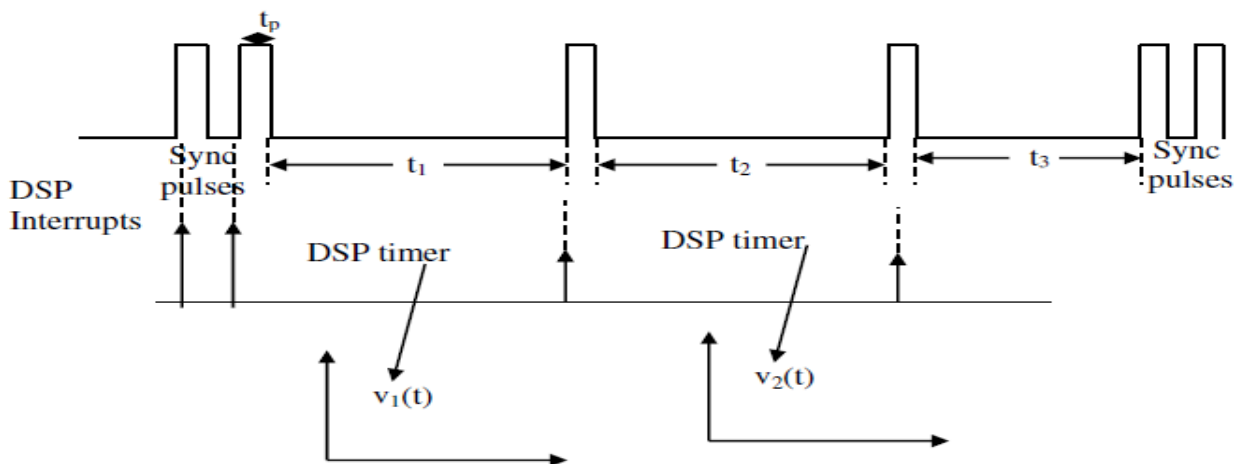

Fig. 8.10: Decoding PPM signal with two ECG signals
- The scheme for decoding is shown in fig. 8.10. DSP Internal Timer employed. The pulses in PPM generate interrupt signals for DSP. The interrupt start / terminate the timer.